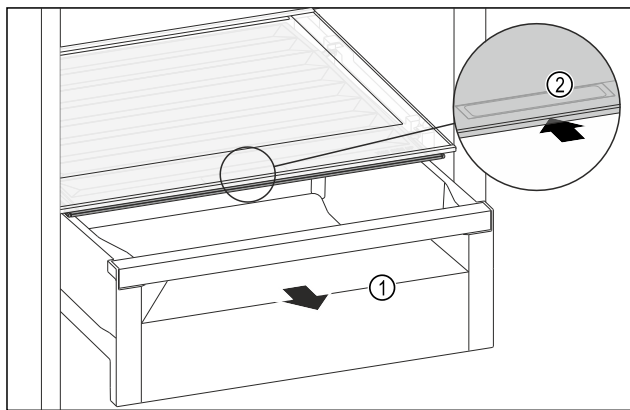

Fig. 109
- ▶ Pull out the drawer Fig. 109 (1).
- ▶ Grasp the recessed grip Fig. 109 (2) on the compartment lid and push the compartment lid backwards at the same time.